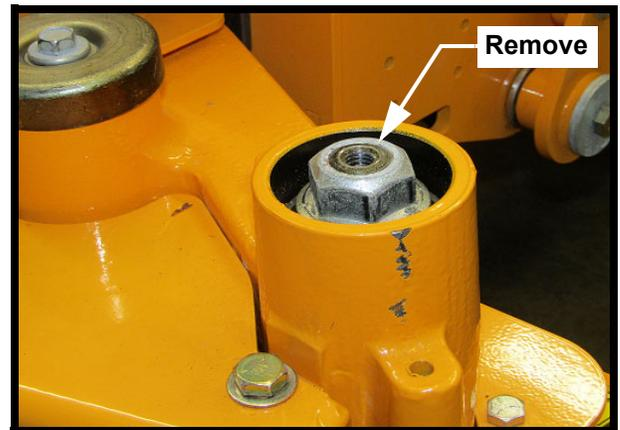

FIGURE 5
12. Support the yoke assembly while removing the 3/4-16 top lock flange nut. See Figure 5. Discard the nut and wave washer located between the nut and top bearing.